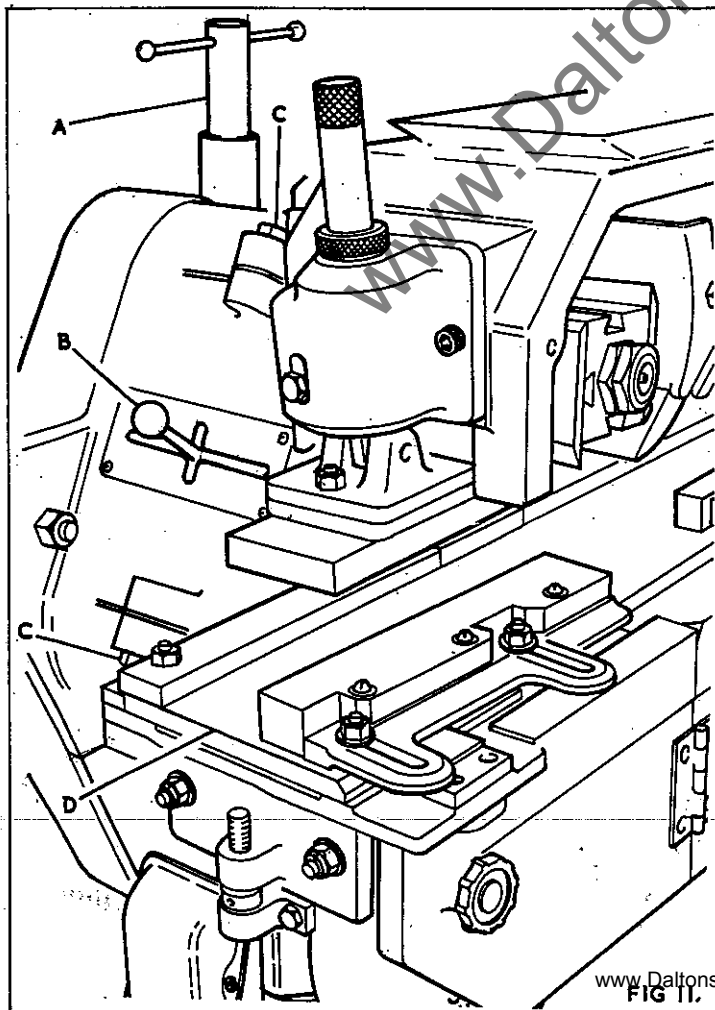
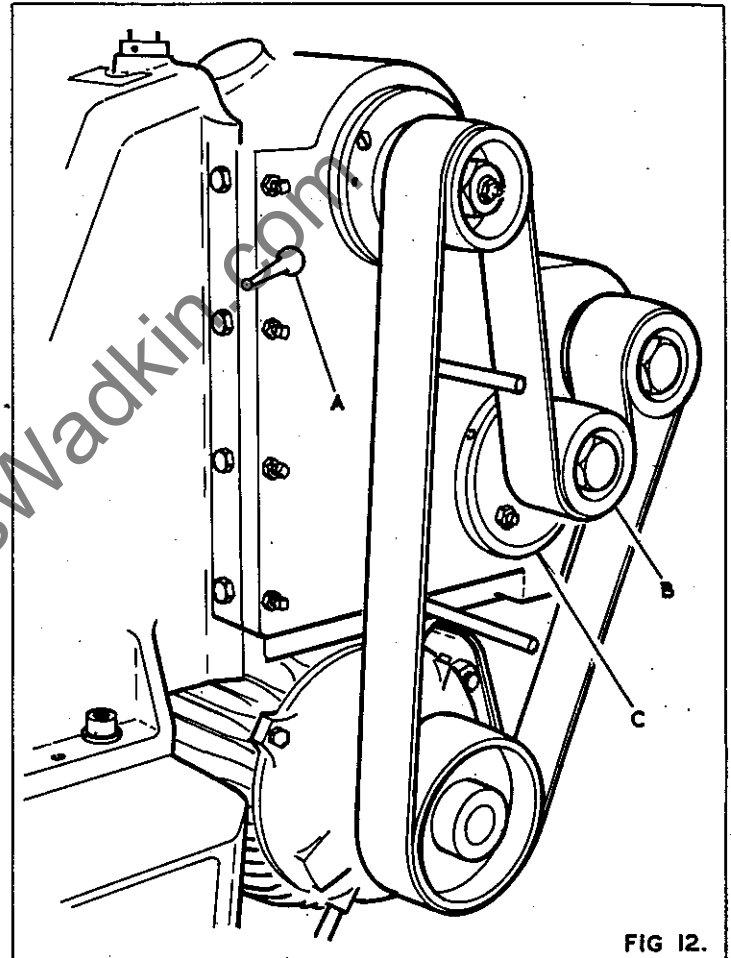

FIG 11.
FIG 12.
Vertical adjustment of the head is by the handle "A" in fig. 11 and lateral adjustment of $\frac{1}{2}$ " (13mm) by the lever "B". The vertical movement of the head is locked in any position throughout its travel by means of the two ball lever screw "A" in fig. 12 and the lateral movement is locked by the hexagon nuts "C" in fig. 11 depending whether the head is being used as a top or bottom head.
The belt drive to this head is as shown, in fig. 12 and tension is provided by the jockey pulley "B" depending on the position of the head.
1. Remove cutterblock, belt guard at rear of head assembly, and the belt. Unlock hexagon head bolts "C" in fig. 11.
3. Move handle "B" in the opposite direction to that in operation 2 and withdraw the dummy quill "C" in fig. 12 which also carries a jockey pulley.
4. Replace the dummy quill "C" in the position which is not being used and push up to the stop. Make sure that handle "B" in fig. 11 is in the vertical slot and away from the position in which the dummy quill is being fit.
7. Replace belt, as shown in fig. 12 and re-tension belt by the jockey pulley on the dummy quill "C" and then replace belt guard.